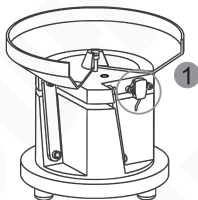

Fig. 2.3.1
- Method 1: As shown in Fig. 2.3.1